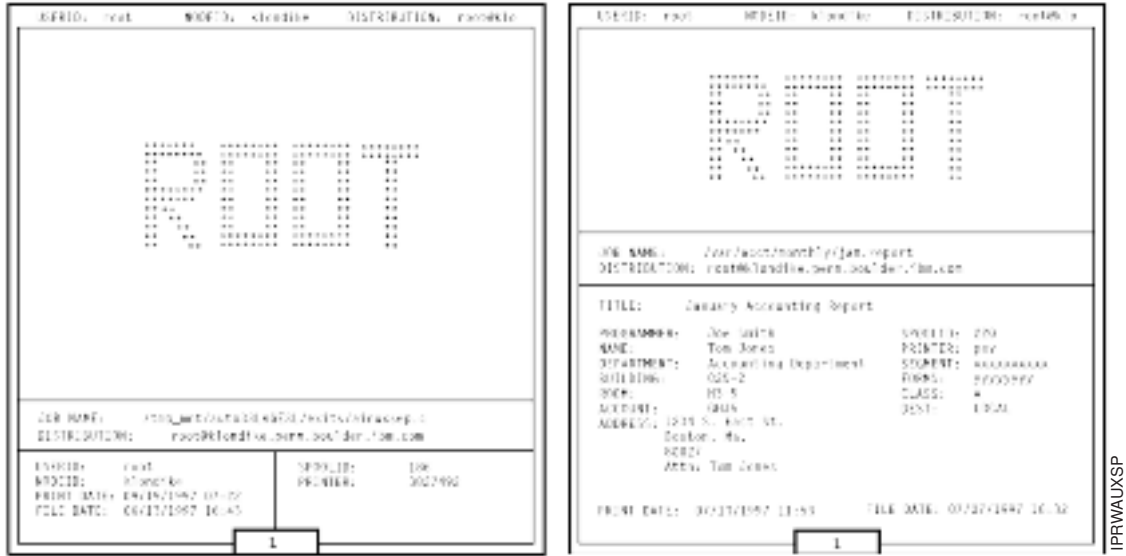

Figure 39. Brief and Full Styles of Separator Sheets
**Separator Sheet Examples:** In Figure 39 on page 131, the user-exit program **ainuxsep** generated the brief style of the separator sheet and user-exit program **ainuxsep2** generated the full style of the separator sheet.